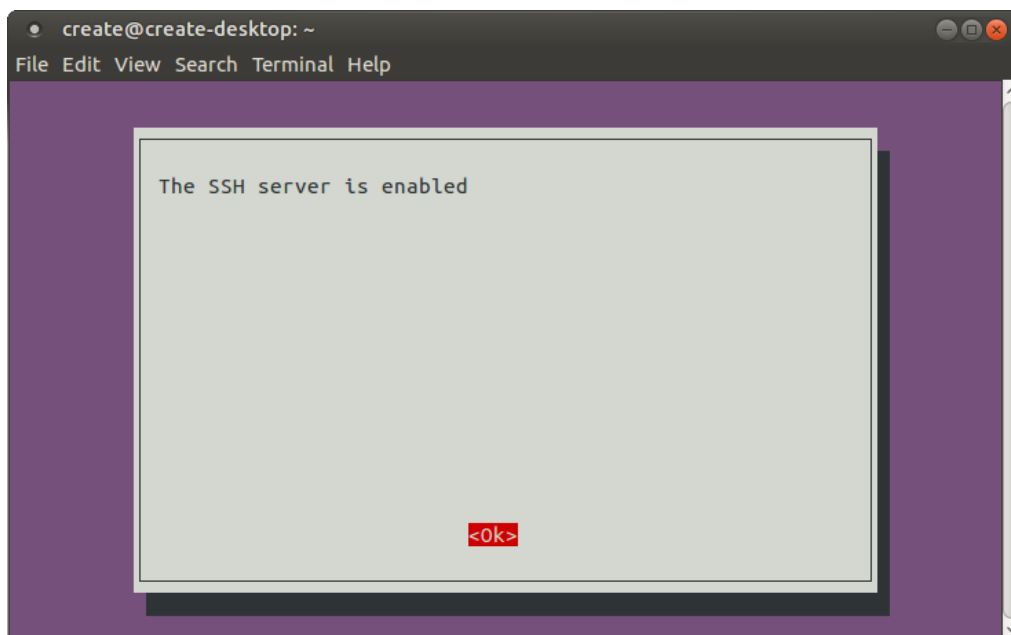

Figure 6: SSH Enabled
- g. Wait for the command to run. When the screen in Figure 6 appears, press Enter to select <Ok>